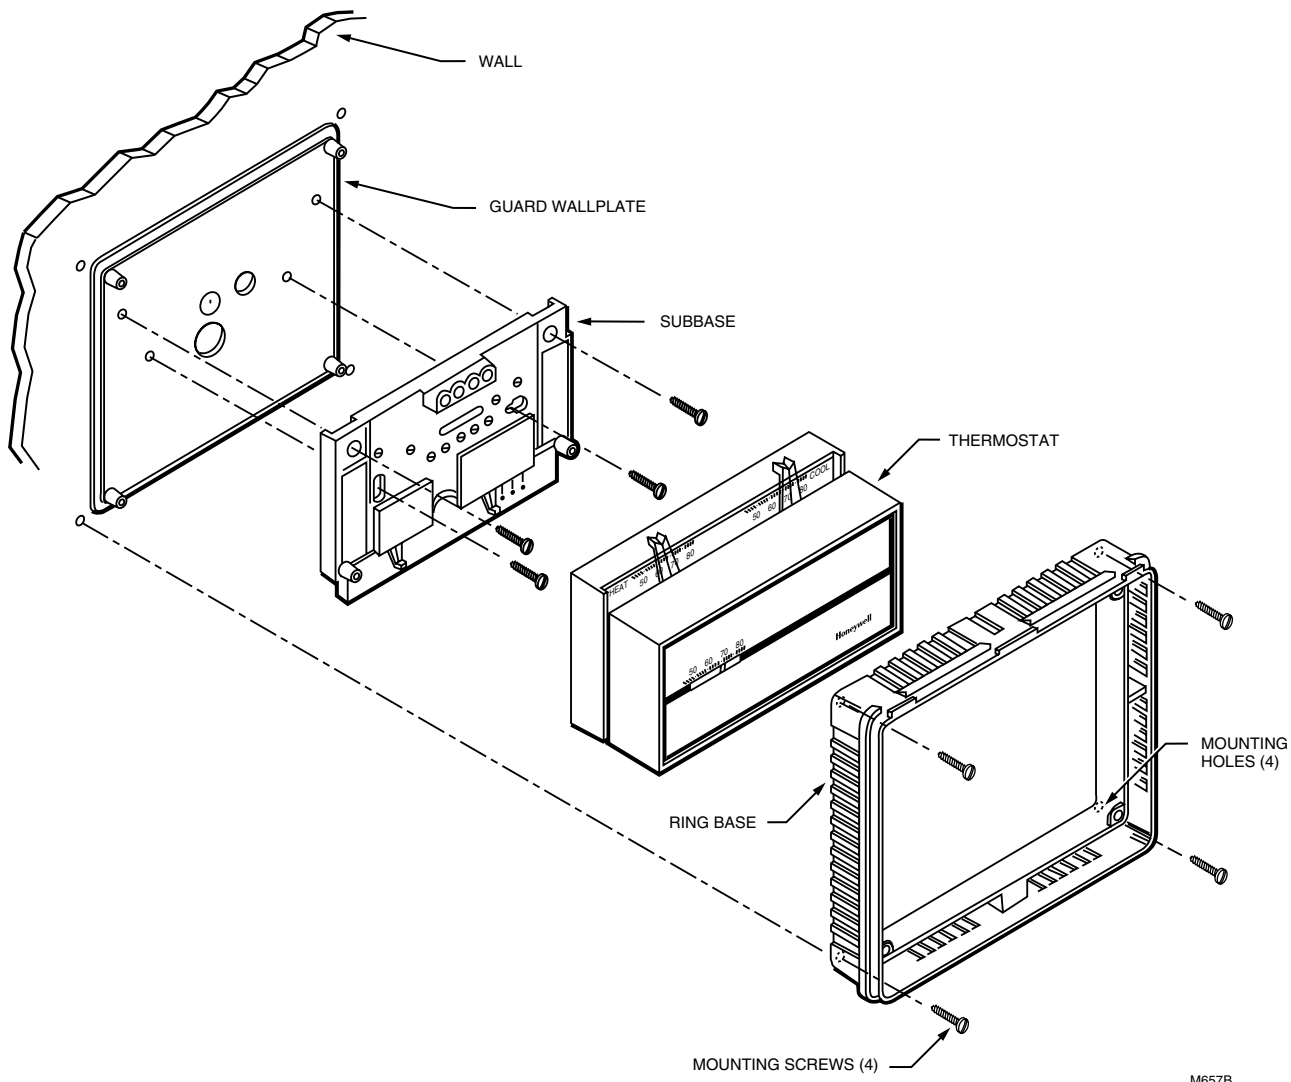

Fig. 10. Mount guard wallplate and ring base on thermostat with front-wired subbase or wallplate.
#### Wall Mounting Front-wired Subbase (Fig. 10)
- 4 Mount the thermostat subbase (or wallplate) and the guard wallplate to the wall using the 1-1/4 in. sheet metal screws provided with the thermostat. The guard wallplate must be placed between the thermostat subbase (or wallplate) and the wall. See Fig. 10.